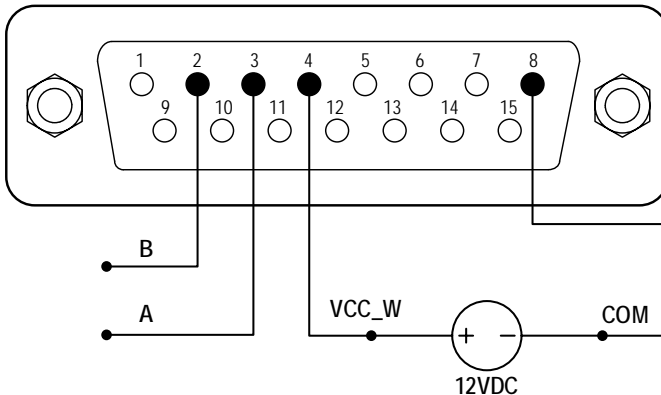

Figure 21. RS485 MODBUS Wiring
1) When the power is off, wire the DB15 connector as shown on Figure 21, and connect it to the DB15 port on the rear of the pump. External DC power source is recommended to avoid electrical interference.